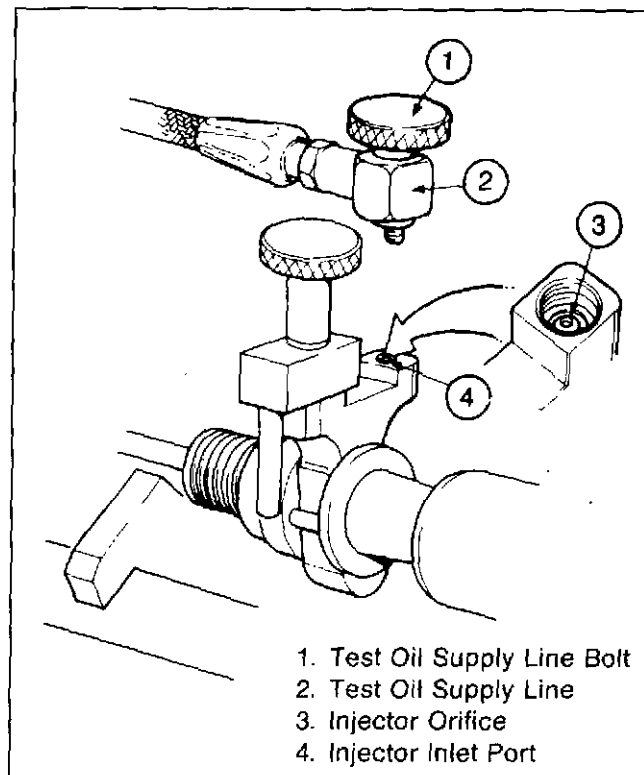

Fig. 3-25. Connect the test oil supply to a flanged injector
6. Attach the test oil supply line to the injector inlet port. The knurled knob will screw into the inlet port, Fig. 3-25.